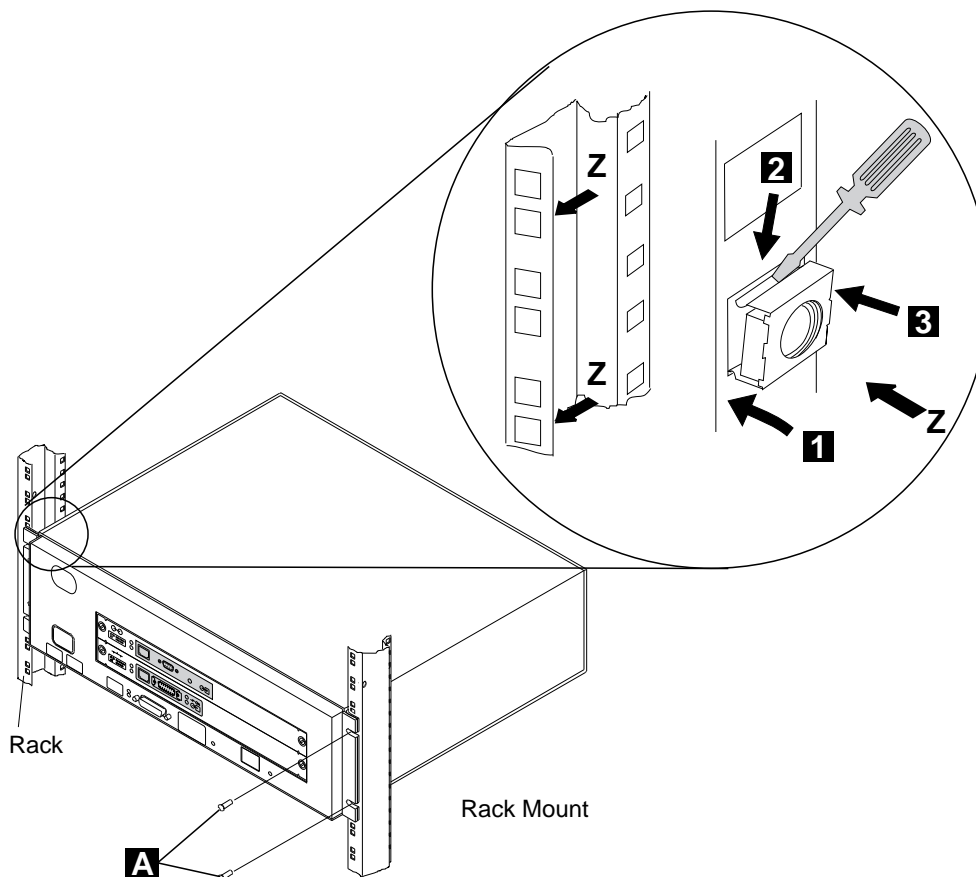

Figure 2-23. Captive Nuts and Ethernet Bridge Installation
- e. ____ Install four captive nuts **3** (PN 58G5766) in the proper locations **Z**, refer to Figure 2-23 on page 2-20.